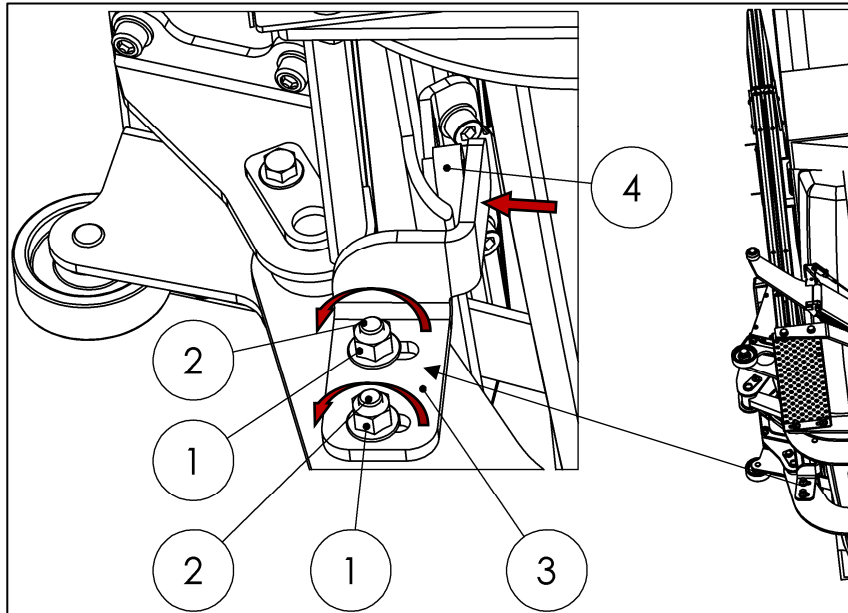

Fig. 79
- Loosen the nuts (1) and bolts (2) on the stopper (3).
- Press the stopper (3) firmly against the plastic disk (4) (see Fig. 79).